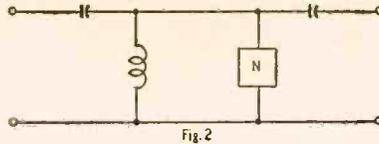

Fig. 2
Fig. 2 shows the negative-resistance circuit (N) combined with a conventional high-pass